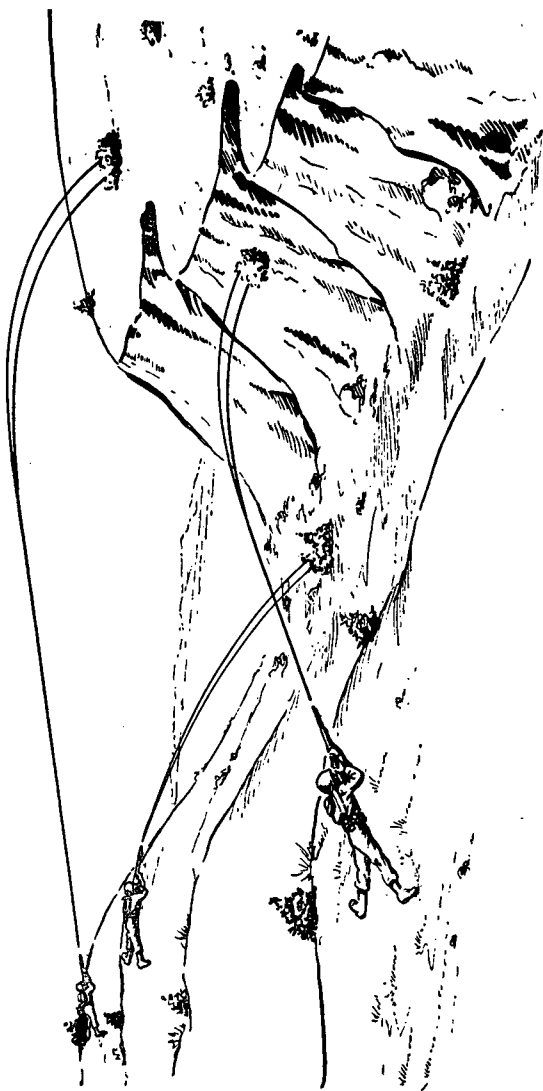

Figure 108. Plunging fire.
- (1) *Grazing* when the bullets do not rise above the height of a man standing. Rifle and automatic rifle fire from the prone position may provide grazing fire at ranges up to 750 yards over level or uniformly sloping ground.
- (2) *Plunging* when the bullets strike the ground at a high angle, so that the danger space is practically confined to the beaten zone and the length of the beaten zone is materially shortened (fig. 108). Fire at longer ranges becomes increas-